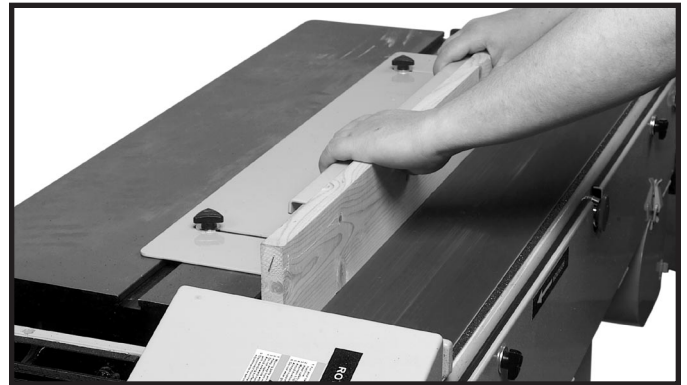

Fig. 48
1. Fig. 48 shows sanding with the fence.